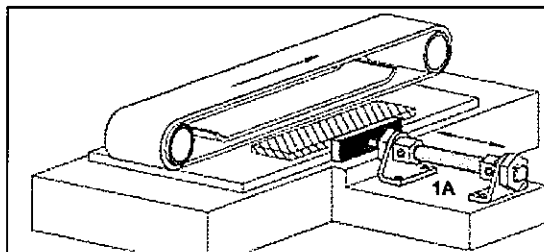

Figure 2(c)/Rajah 2(c)
- CLO 2 (c) The double-acting cylinder in Figure 2(c) below is used to push a plank of wood under a sanding (polishing) belt. By pressing a push button switch, the plank wood will slide and positioned under the belt. A push button switch is used to return the sliding table to its start position after the cylinder rod has reached its full extended position. Propose an electro-pneumatic circuit for this system.